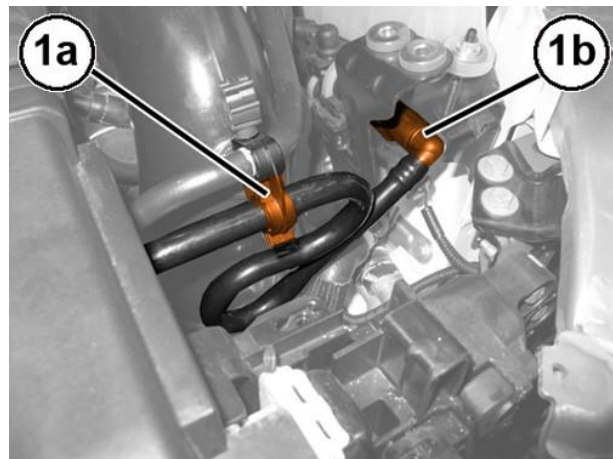

Figure 44 – Fuel Vapor Supply Pipe
29. Open the clip (1a) and disconnect the quick coupling (1b) of the fuel vapor supply pipe to the solenoid valve (Figure 44).